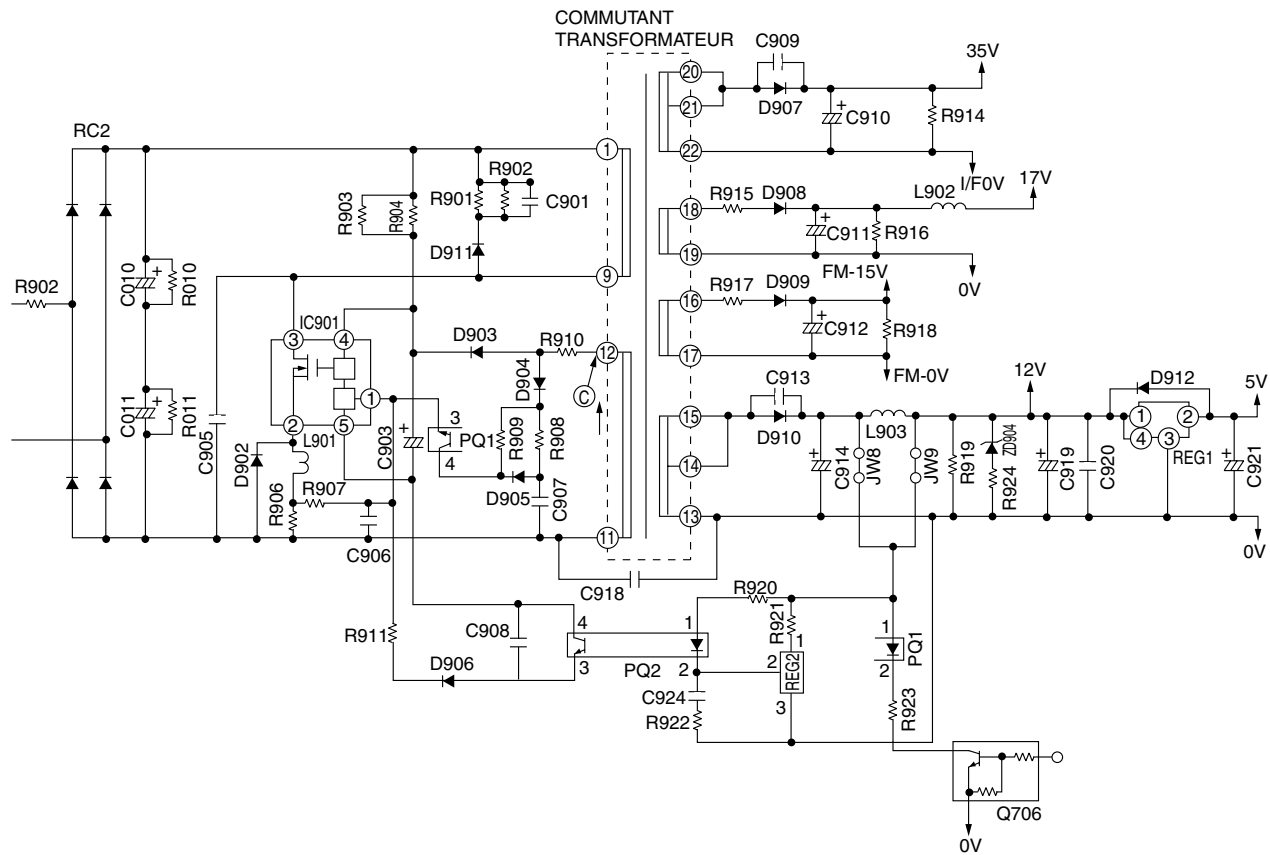

Fig. 4-1 Circuit d'alimentation pour le circuit imprimé
(1) Shifting from OFF to ON
- DC about 330V is applied from smoothing capacitors C010 ⊕ and C011 ⊖ in the control power circuit. With this power, current flows to pin ④ of IC901 via R903 and R904 and IC901 starts to turn ON. Since voltage in the direction of arrow generates at point ③ at the same time, current passing through R910 and D903 is positive-fed back to IC901.
- La Fig. 4-1 représente le circuit d'alimentation pour le circuit imprimé et la forme d'onde à chaque point.